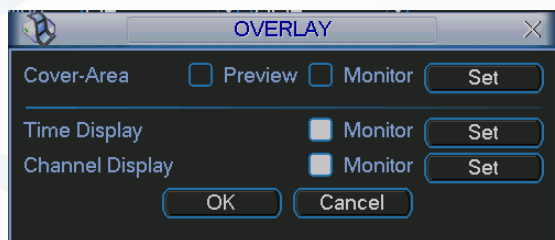

Figure 5-9
- **Overlay:** Click overlay button, you can see an interface is shown in Figure 5-9.